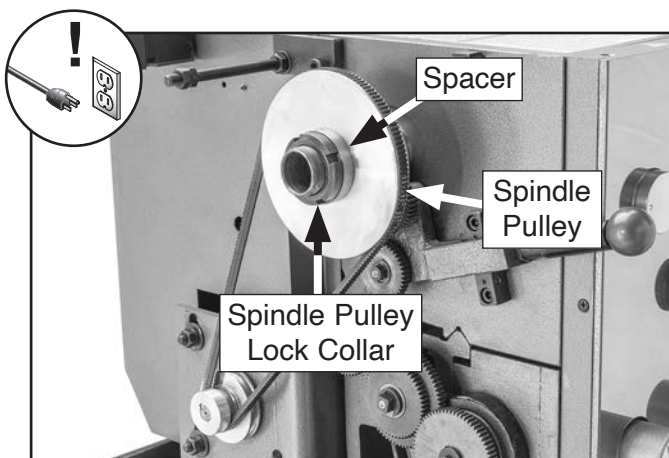

Figure 116. Location of spindle pulley and spindle pulley lock collar.
4. Remove spindle pulley lock collar (see **Figure 116**).
6. Remove spacer and spindle pulley from spindle (see **Figure 116**).